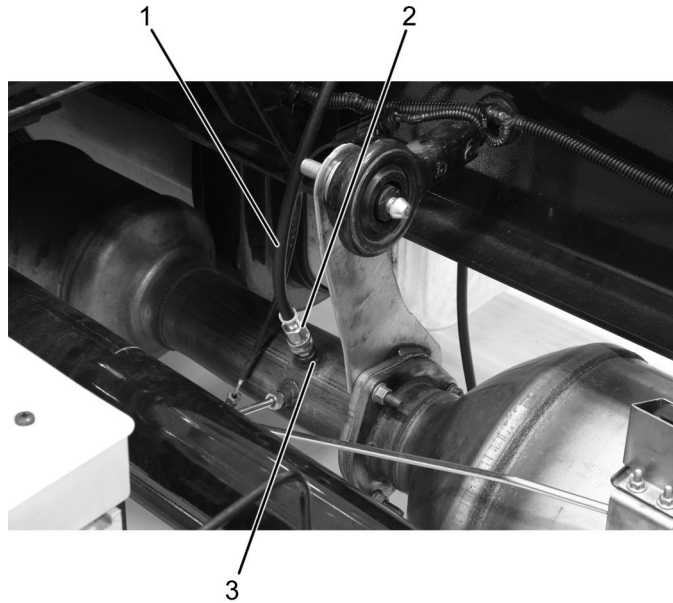

Figure 11. Pressure Sensor Port Adapter.
1. Install pressure sensor port adapter (Figure 11, Item 2) into pressure sensor port (Figure 11, Item 3).
2. Connect Navistar® Leak Locator supply line (Figure 11, Item 1) onto pressure sensor port adapter (Figure 11, Item 2).
3. Disconnect Navistar® Leak Locator supply line (Figure 11, Item 1) from pressure sensor port adapter (Figure 11, Item 2).
4. Remove pressure sensor port adapter (Figure 11, Item 2) from pressure sensor port (Figure 11, Item 3).